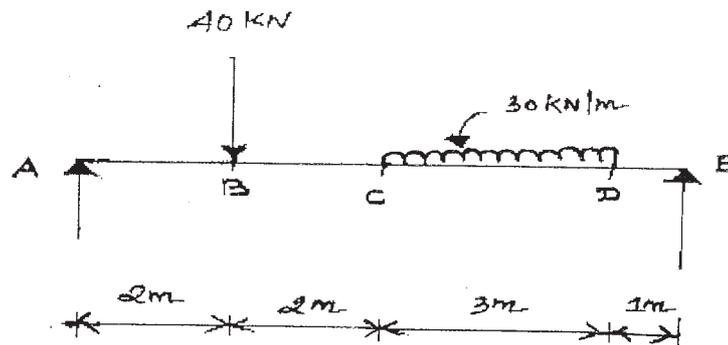

Fig. 6
- (b) Calculate the maximum deflection for the beam shown in Fig. 6